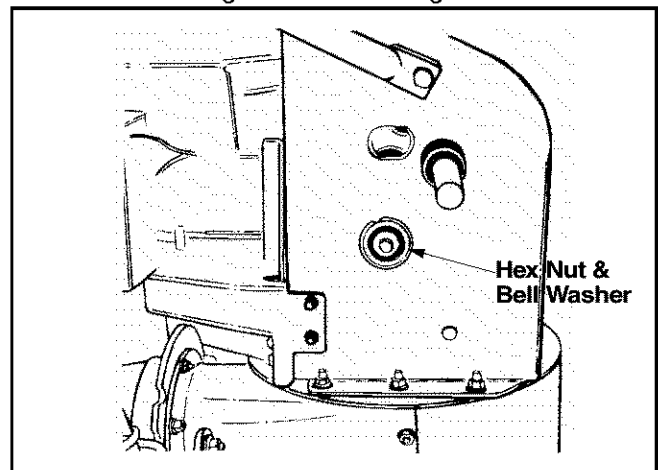

Figure 26
- Using a wrench to hold the shaft, loosen, but do not completely remove, the hex nut and bell washer on the left end of gear shaft. See Figure 26.